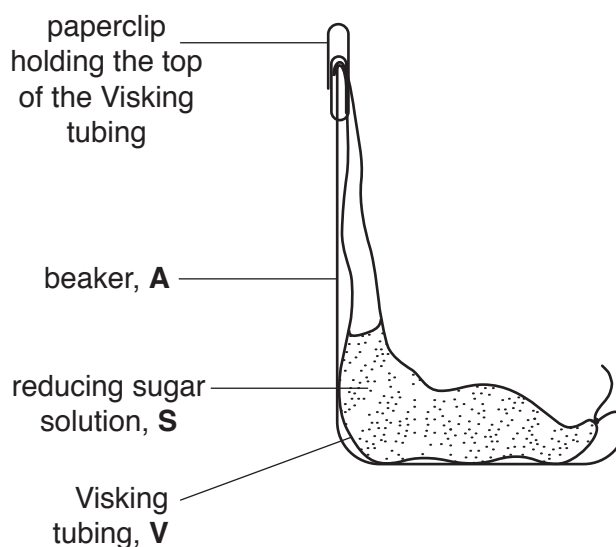

Fig. 1.1
Fig. 1.1 shows the apparatus you will set up for this investigation before the water has been added.
(i) Draw on Fig. 1.1 the level of water:
You are required to set up the apparatus as in Fig. 1.1, add the water and then remove a sample of this water (**U**) after 15 minutes.
6. Put the Visking tubing into the empty beaker, labelled **A**, as shown in Fig. 1.1.